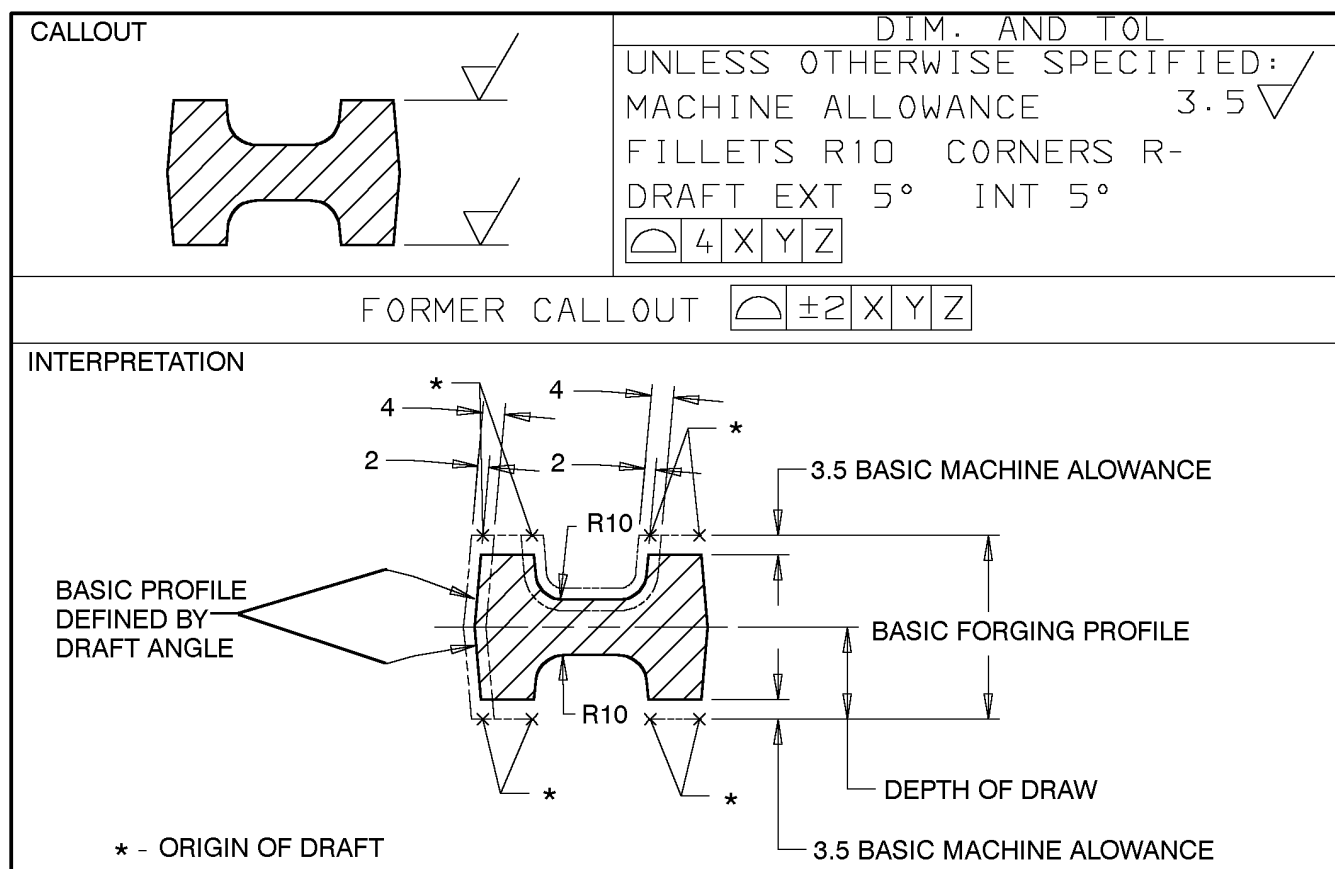

Figure 21 - 5° Forging Draft Shown Pictorially
**11.2** Figure 21 illustrates draft and parting line on a forging where 5 degree draft remains on the finished part.